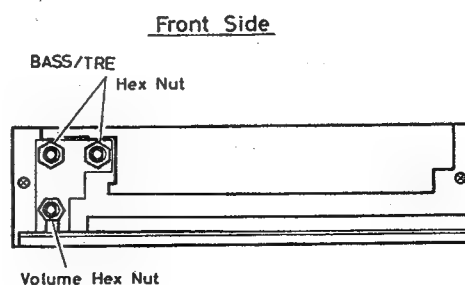

Fig. 2 - 4
2. Remove the shaft knobs(knob joint).(see Fig2 - 3)
3. Remove the nuts retaining the BASS/TRE volume and pull out it backward(see Fig.2 - 4).